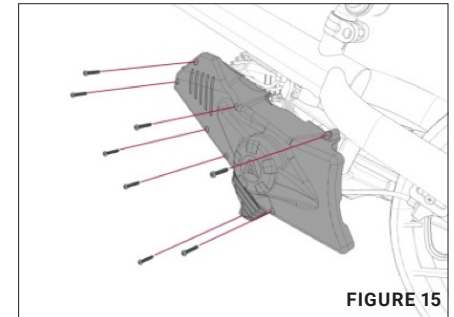

FIGURE 15
2. Remove the left side protective cover. [Figure 15]